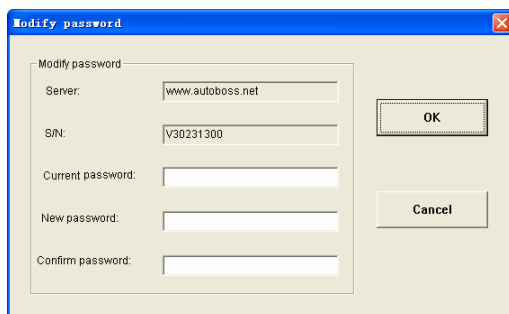

Fig2-5 Modify password interface
- (2) Click the button [Modify password] to enter interface in Fig.2-5. After inputting the current password and new password, click [OK]. You will get a confirmation for successful modification if the new password is OK.